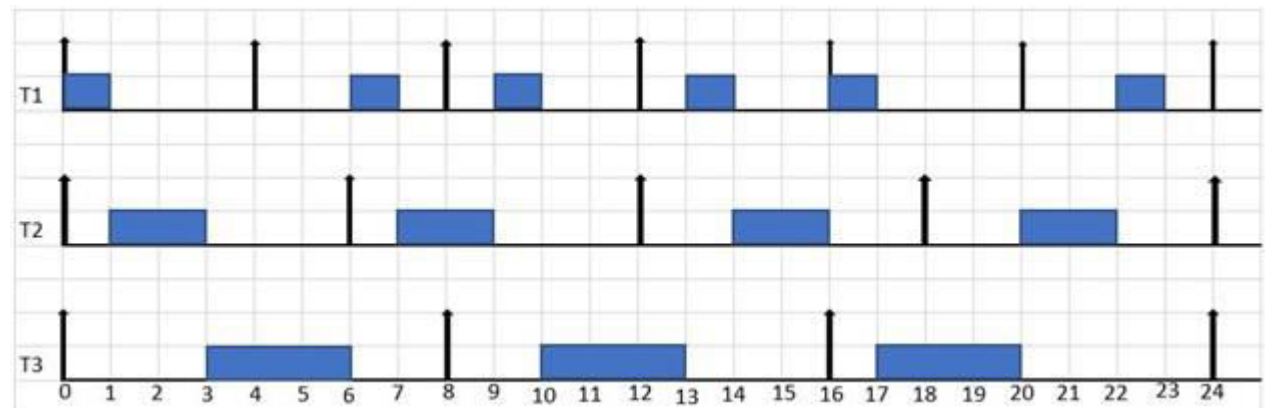

Figure 2. Earliest deadline first scheduling of task set in Table -2
- If we take the three tasks specified in the table from the previous chapter and schedule them using a non-preemptive algorithm we get the behavior shown in Fig. 2. Once started, each task completes its operation and then the next one starts.